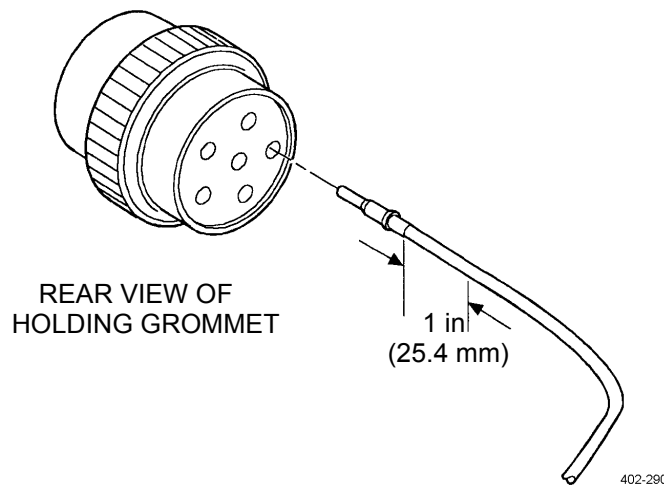
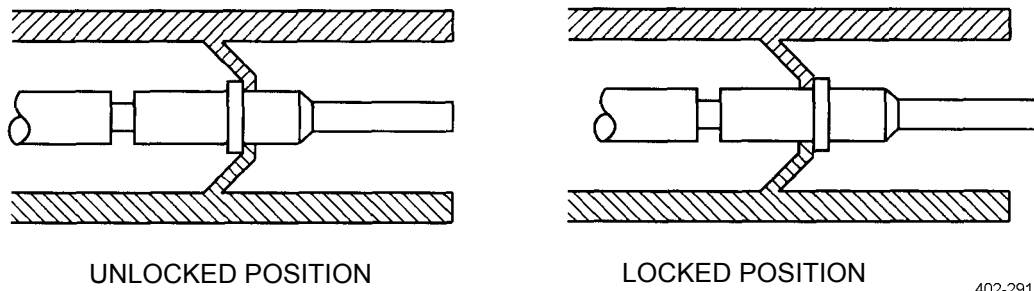

Figure 15. Pushing Contact into Grommet.
Figure 16. Locking Terminal into Connector.
- (5) Grasp contact approximately 1 in (25.4 mm) behind contact crimp barrel.
- (6) Hold connector with rear grommet facing you (Figure 15).
- (7) Push contact into grommet until a positive stop is felt (Figure 15). A slight tug will confirm that it is properly locked into place (Figure 16).